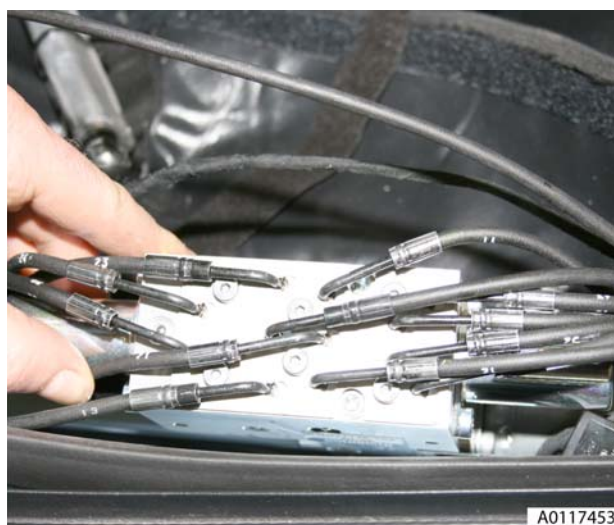

Figure 13
21. Loosen (x6) screws on pump retaining plate (see Figure 13).